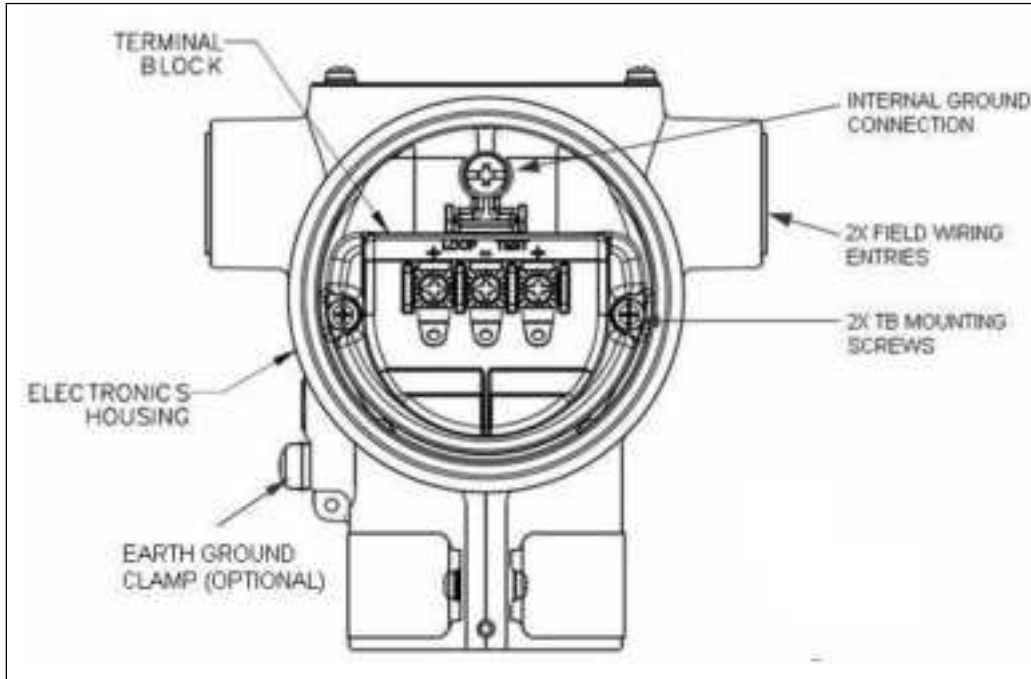

Figure 15 – ST 700 Standard Transmitter - 3-Screw Terminal Board and Grounding Screw
Loop wiring is connected to the transmitter by simply attaching the positive (+) and negative (–) loop wires to the positive (+) and negative (–) terminals on the transmitter terminal block in the electronics housing shown in Figure 15.
As shown in Figure 15, each transmitter has an internal terminal to connect it to earth ground. Optionally, a ground terminal can be added to the outside of the electronics housing. While it is not necessary to ground the transmitter for proper operation, doing so tends to minimize the possible effects of noise on the output signal and affords protection against lightning and static discharge. An optional lightning terminal block can be installed in place of the non-lightning terminal block for transmitters that will be installed in an area that is highly susceptible to lightning strikes.
1. See Figure 15, above, for parts locations. Loosen the end cap lock using a 1.5mm Allen wrench.
If your transmitter includes the optional lightning protection, connect a wire from the Earth Ground Clamp (see Figure 15) to Earth Ground to make the protection effective. Use a size 8 AWG or (8.37mm²) bare or green covered wire for this connection.